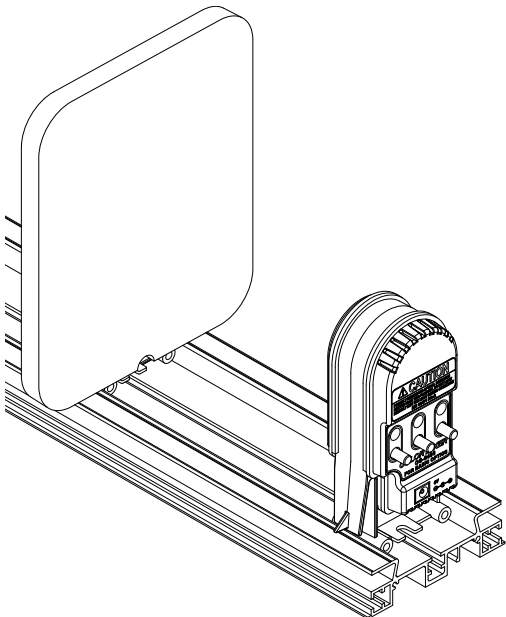

Figure 3
1. Mount the Color Mixer at one end of a PASCO optics bench, as shown in Figure 3. To do so, place the component's base onto the bench and push down firmly to snap the Color Mixer into place.